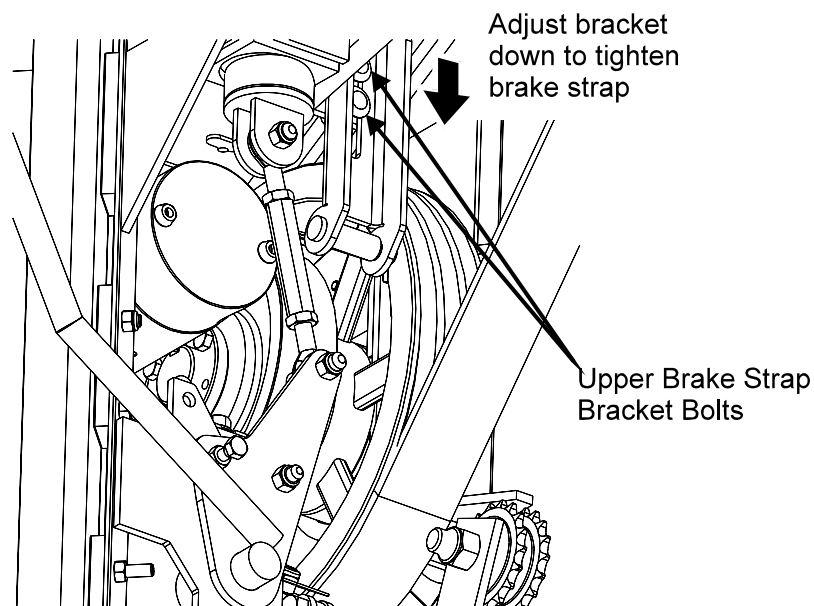

FIG. 3-5
**See Figure 3-5.** Loosen the two nuts on the upper brake strap bracket. Slide the bracket and brake strap down until snug. Retighten the bolts. Replace the belt cover.